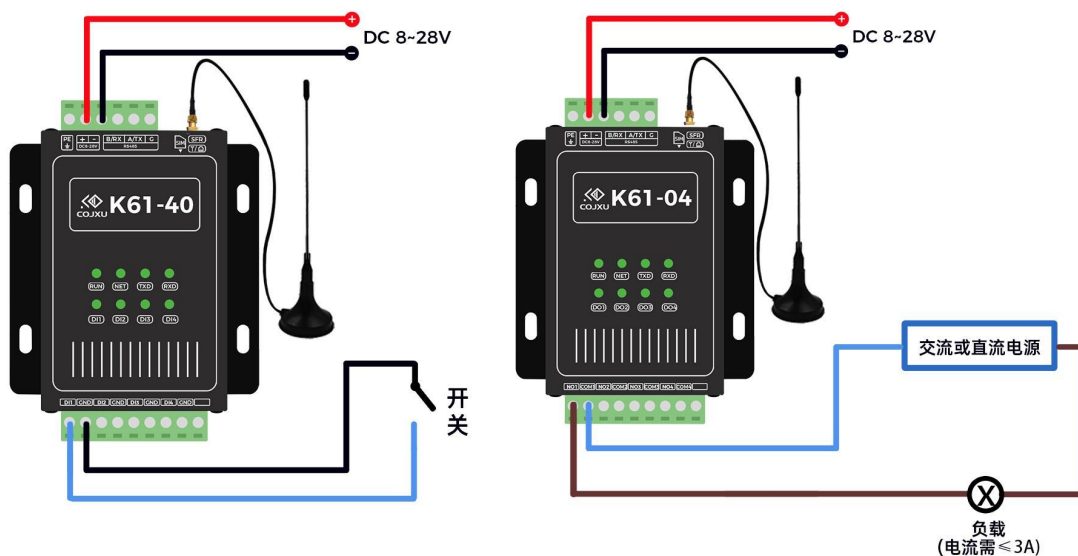

Figure 2-3 Connecting IO ports
(1) Connect a switch (or sensor, etc.) to the DI and GND interfaces of the K61-40 acquisition end of this product as shown in Figure 2-3 below. Then, after tightening the screw on the plug-in terminal of this product, close the switch (or let the sensor output a closed switch signal). When the switch is closed, the corresponding IO light is always on, indicating that the switch closed signal is collected.
(2) Notes:
(1) According to the figure 2-3 below, connect the DO and GND wires of the output end of K61-04 of this product according to the figure below (or connect them to the switch signal acquisition sensor). After receiving the switch signal sent by the sender, the K61-04 device will output a closed switch signal, the light bulb in the picture will be on, and the corresponding IO light will be always on.